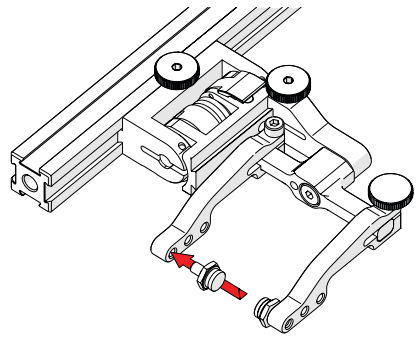

Fig. 72 - Place pivot buttons
4. Using the supplied 3/8 in wrench (Fig. 2), place the pivot buttons as required (Fig. 72).